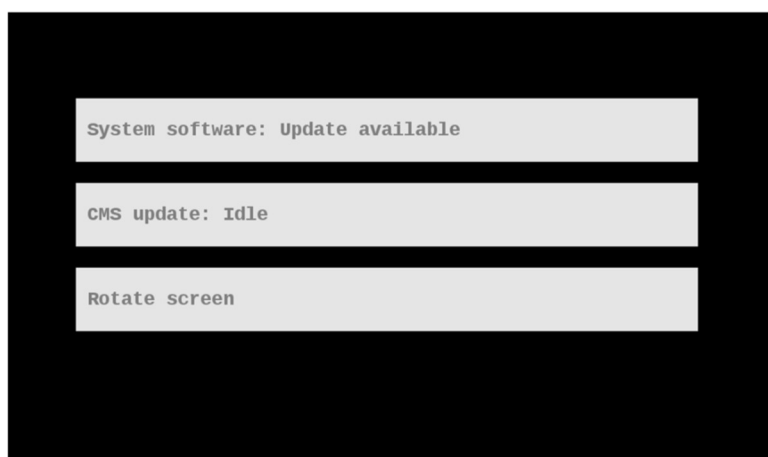

Figure 21: indication "CSDB available" on Fail-safe GUI main page
- b. Verify that System Software changes to "Update available" (Figure 21).